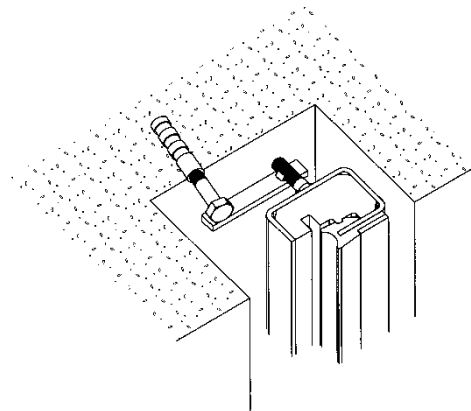

Fig. 10
- Depending on size and weight of Sluice Gate Valve, 2-3 dowels per side should be set into the recess and bolts be inserted (Fig.10).
- Connect anchor and dowel bolts in the recess with a bar profile by welding acc. Fig. 10.